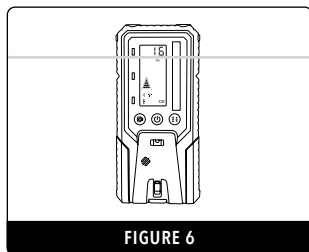

FIGURE 6
- Hold the detector upright for horizontal beams (Fig.6) or rotate 90° for vertical beams (Fig. 7).
- The direction arrows or level line on the LCD screen will indicate the position of the laser beam. The digital display will indicate a millimetre reading of the adjustment required (Fig.6 & 7). The detector will emit a constant beep once the level position has been located.